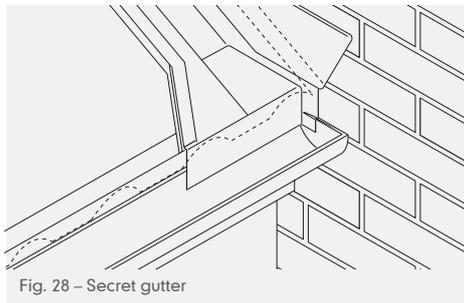

Fig. 28 – Secret gutter
- 3 Fix a splayed timber fillet at discharge point to raise lead lining to the right height. Avoid backward falls (Fig. 28).